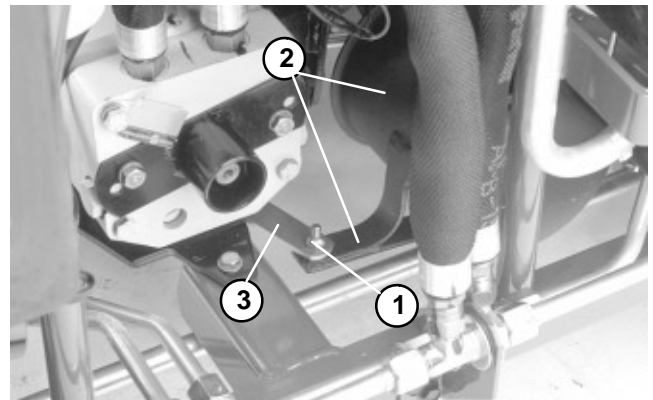

Figure 30
9. Remove hex nut, cap screw, flat washer securing the muffler tab to the muffler bracket (Fig. 30).
1. Position muffler through the bottom of the machine to the muffler bracket. Insert cap screw with flat washer through the muffler tab and then the muffler bracket. Screw hex nut onto the cap screw, but do not tighten (Fig. 30).
4. Tighten cap screw and hex nut securing the muffler to the muffler bracket (Fig. 30).